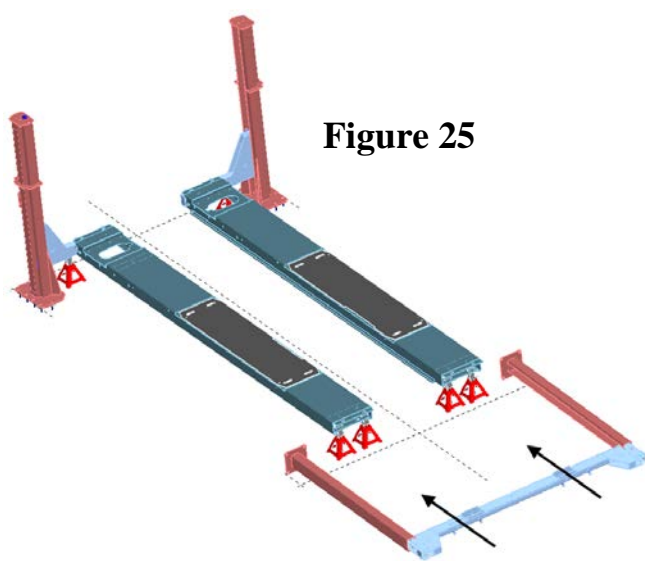

Figure 25
- Keep towers fixed on the floor and push rear cross-member toward the lift (**Fig.25**).